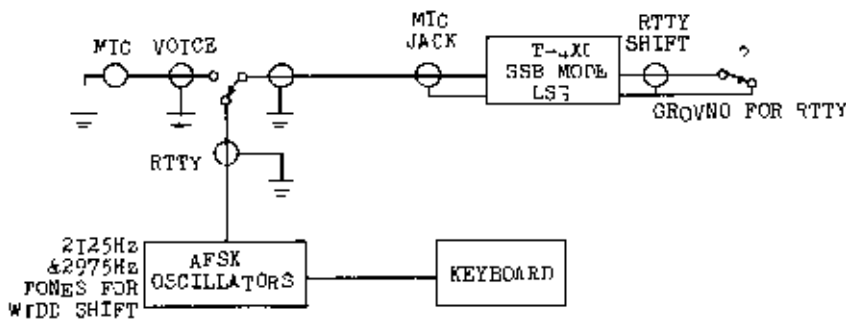

Figure 3-4 AFSK Circuit
- Refer to figure 3-4. The second method of generating a RTTY signal employs the use of audio oscillators to generate AFSK. When the audio tones are fed through an SSB transmitter, a simulated FSK signal results. The T-4XC may be used in this mode if regulations permit; however, the carrier oscillator frequency must be shifted approximately 500 Hz farther away from the center of the filter passband. This shift alters the frequency response of the transmitter so that the commonly used 2975 Hz tone frequency falls within the passband of the SSB crystal filter, and also increases unwanted sideband rejection and carrier rejection.